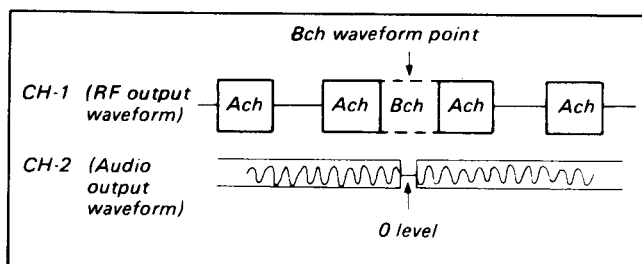
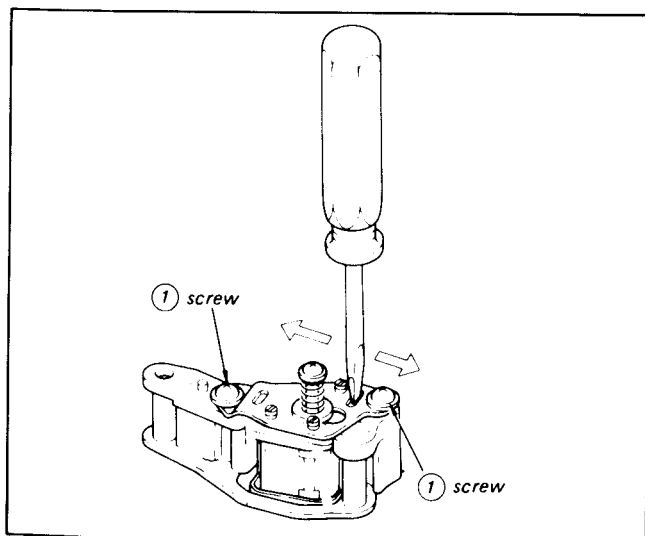

Fig. 4-14.
Fig. 4-15.
- 3) Turn the tracking control knob back and forth, and confirm that the output waveform level is maximum at the center click position, and that the 0 level of the audio signal is at the point where the RF output waveform Bch waveform appears, as shown in Fig. 4-14.
Set the tracking control knob at the center detent position and loosen the two ACE assembly position adjustment screws ①. As shown in Fig. 4-15 slide the ACE assembly with a screwdriver until it is in the position shown in Fig. 4-14 and the RF output waveform is maximum. Tighten the screws ① when this position is obtained.